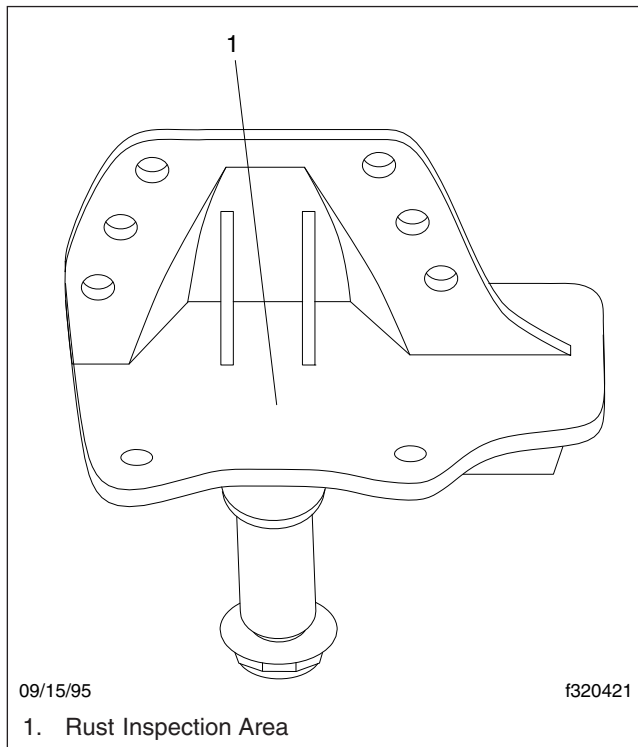

Fig. 11, Hendrickson RS Series Rust Inspection
4. Inspect each frame hanger for severe rust on the horizontal mounting flange adjacent to the vertical drive pin area. See **Fig. 11**.